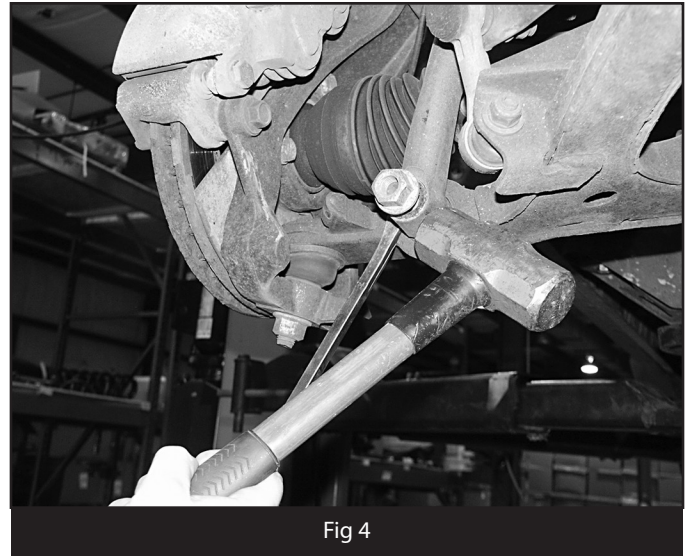

Fig 4
7. Using a pitman arm puller or equivalent, remove the strut from the tapered mounting stud. Note: If a puller is not available, taper can be freed by striking with a hammer while prying out on the strut mount. (Fig. 4)